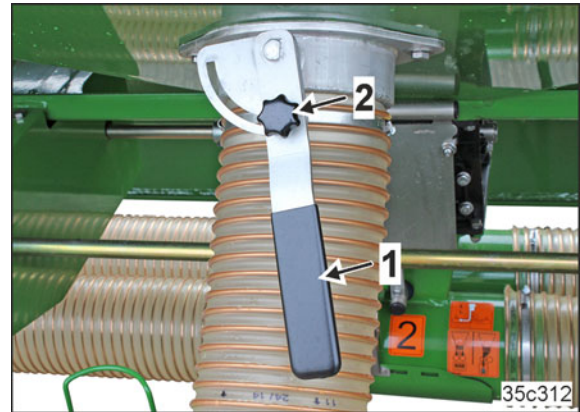

Fig. 57
2. Hold the lever (Fig. 57/1) and undo the knurled screw (Fig. 57/2).
7. Secure the lever (Fig. 57/1) using the knurled screw (Fig. 57/2).